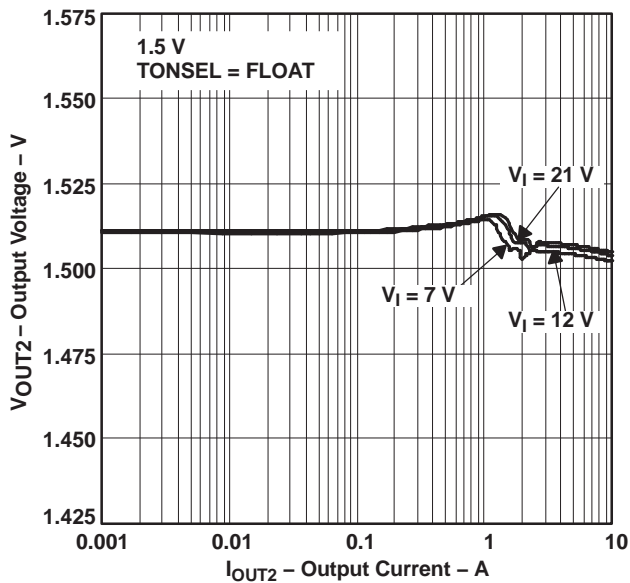

Figure 13. (3)
(3) The data of Figure 13–Figure 16 are measured from the Typical Application Circuit of Figure 25 and Table 2